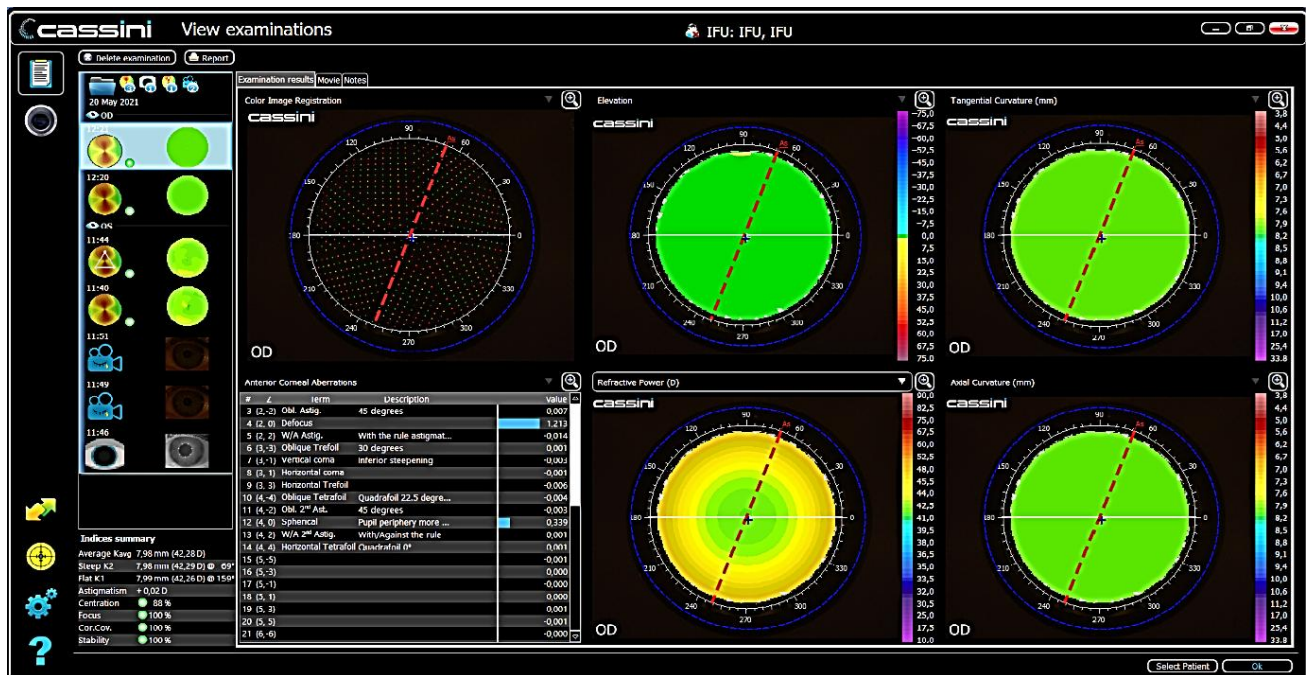

Figure 42: View Examinations view
5. After the triggering, the captured image is shown together with an initial Quality Factor indicator (Figure 42)